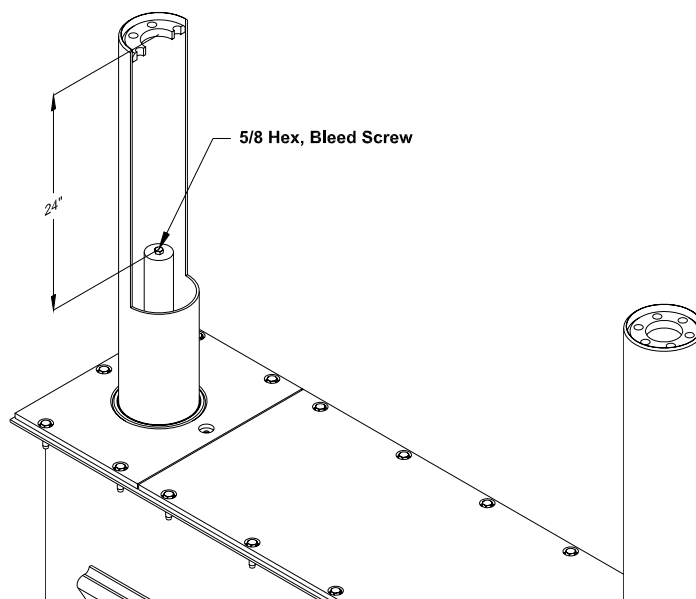

Fig. 10
21. Finish Energize the power unit to run the cylinder up about 3 feet. Loosen the bleed screw at the top of each cylinder, and allow the trapped air to escape. Bleed both cylinders until clear oil is seen. Refer to Figure 10. Raise the lift to full stroke and continue to run the power unit for another 10 seconds to check for hydraulic leaks.